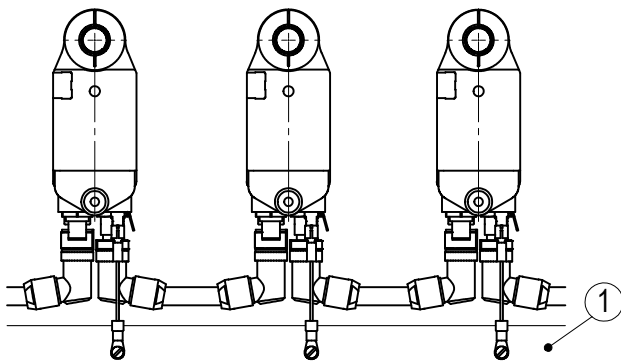

Fig. 8: Ground bar
For protection against interference, the screens of the signal lines and the power line must be connected on both sides. Potential differences cause inadmissible currents on the screen. Apply the Ground connection ① to the protective conductor potential below the connecting plugs (see Fig. 8). Use 6,3 mm flat connectors with short strands 2,5 mm2 ... 4 mm2 (not in the scope of delivery). For multiple actuators we recommend connecting the earthing to a ground bar ① (see Fig. 8).